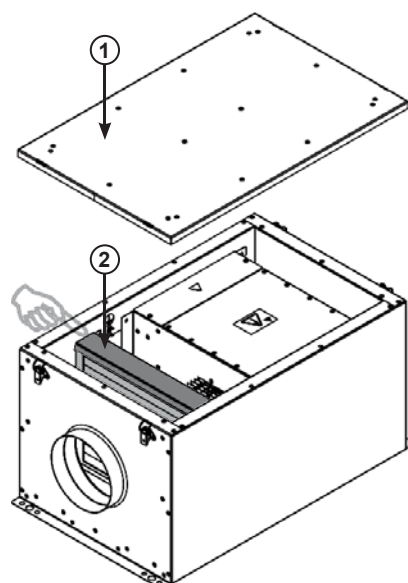

Fig. 12:
- Loosen the air filter flap (2). The filter (3) can then be easily removed (see Fig. 12+13).
- After changing the filter, close the filter flap (2) and the unit's cover (1) again.